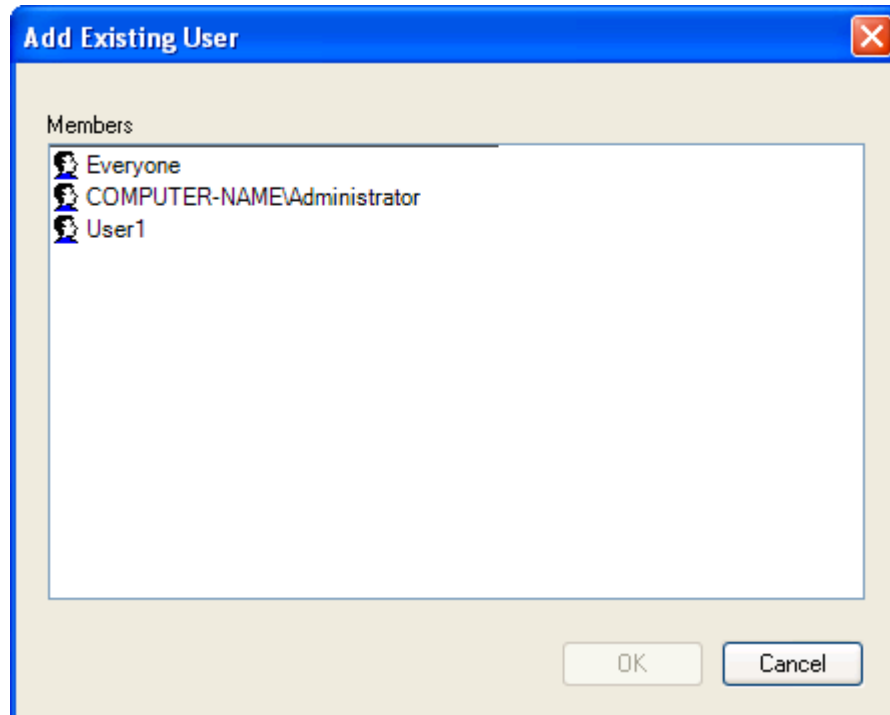

Figure 64 - Add Existing User Window
1. Click on the **Add** button. The **Add Existing User** window (Figure 64) appears.